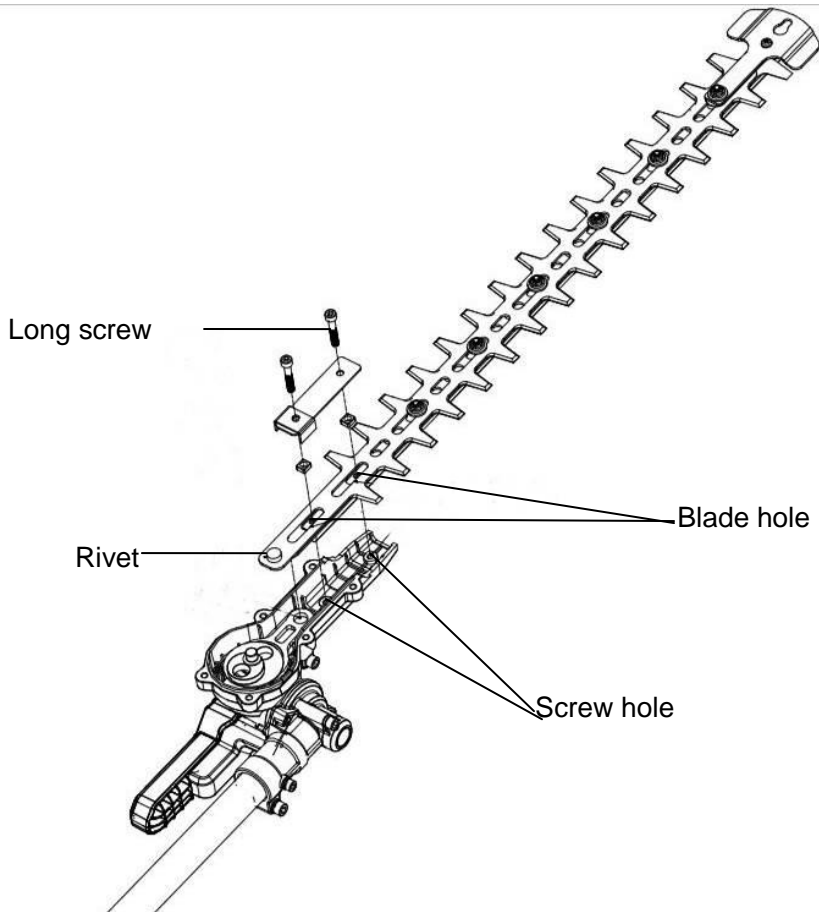

Fig. 28B
3. Keep the holes in the blade, the gaskets, and the holes in the pressing plate, wool felt in line with the screw holes in the gear case. Install the 2 long screws into the aligned holes and tighten them securely (Fig.28B).